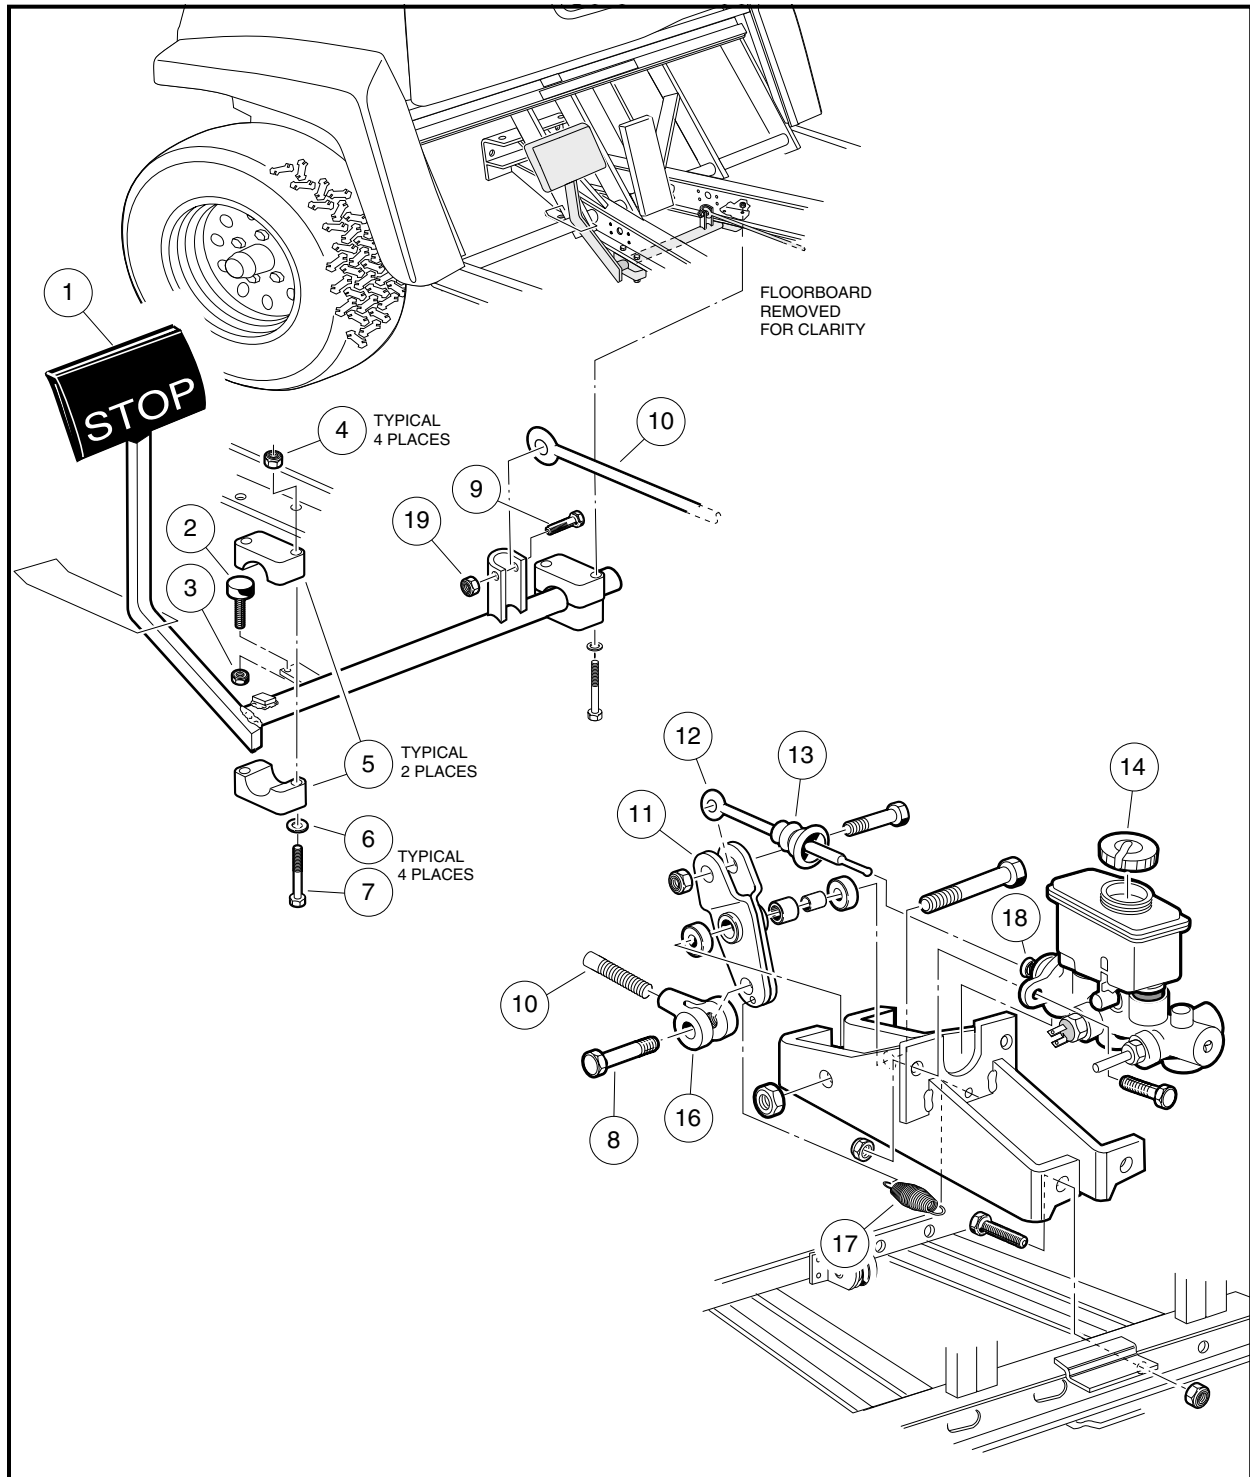
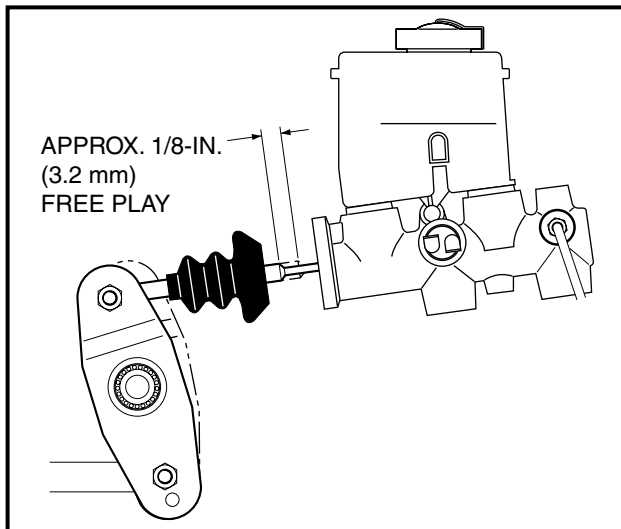

Figure 5-1 Brake Pedal Assembly
Figure 5-6 Push Rod Free Play
- 6.1. Remove the bolt (9) and nut (19) from the brake pedal weldment (**Figure 5-1, Page 5-3**).
- 6.2. Remove nuts (4), flat washers (6), bolts (7), and mounting blocks (5). If the mounting blocks (5) show signs of excessive wear, or are damaged, they must be replaced with new ones before installing pedal assembly (**Figure 5-1, Page 5-3**).
- 6.3. Remove the nut (3) and brake stop bumper (2) (**Figure 5-1, Page 5-3**).
1. From the top side of the floorboard, insert the brake pedal weldment assembly (1) through the opening in the floor as shown (**Figure 5-3, Page 5-4**) and install the brake pedal stop bumper (2) and nut (3) (**Figure 5-1, Page 5-3**) on the brake pedal assembly, but do not tighten the jam nut at this time.
2. Attach the equalizer rod (10) to the brake pedal weldment assembly (1) as shown (**Figure 5-1, Page 5-3**). Tighten to 17 in-lb (1.9 N·m).
3. Position and attach brake pedal assembly and mounting blocks (5) with bolts (7), washers (6), and lock-nuts (4) to vehicle frame as shown. Tighten to 70 in-lb (7.91 N·m) (**Figure 5-1, Page 5-3**).
4. Remove the rod retaining bolt (8) and remove the clevis (16) from the bell crank assembly (11) **(Figure 5-1, Page 5-3)**.
10. Adjust the clevis (16) by rotating it clockwise or counterclockwise so that the rod retaining bolt (8) can easily be placed through the clevis (16) and the bottom hole in the bell crank assembly (11) **(Figure 5-1, Page 5-3)**.
**NOTE:** The spring (17) should not be under tension while the brake pedal is at rest **(Figure 5-1, Page 5-3)**.
11. Install the rod retaining bolt (8) through the clevis (16) and the bell crank (11). Tighten the bolt to 14 ft-lb (19 N·m) **(Figure 5-1, Page 5-3)**.
12. Observe the push rod while pressing the brake pedal. There should be at least 1/8 inch of free play (at the push rod) before the push rod begins to depress the master cylinder piston **(Figure 5-6, Page 5-7)**. An accurate measurement is not necessary, but it must be a minimum of 1/8-inch (4.44 mm) so that the push rod does not contact the master cylinder piston when the pedal is at rest.
**NOTE:** Brake pedal free play is the distance the push rod (12) travels before the master cylinder piston (18) is depressed (**Figure 5-1, Page 5-3**). Also see **Figure 5-6, Page 5-7**.